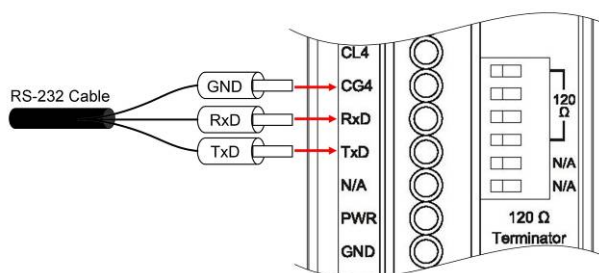

Figure 3-5 RS-232 wire connection of the I-2534
Step2: Connect the PC available COM port with the COM port of the I-2534 or I-5534-M. When connecting to the COM port of the I-2534, the TxD pin of the cable is connected to the TxD pin of the I-2534, RxD pin of the cable is connected to the RxD pin of the I-2534, and GND pin of the cable is connected to the CG4 pin of the I-2534. The figure 3-5 and 3-6 illustrates the detail.